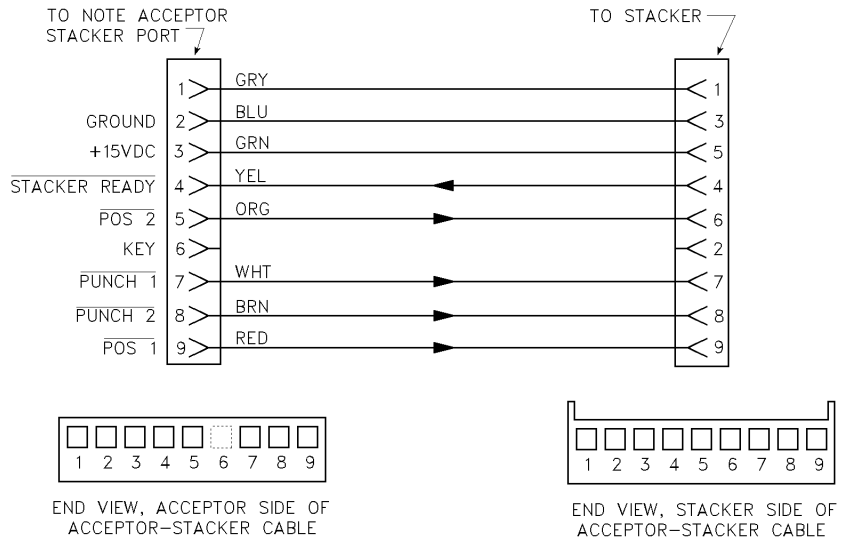

Figure 4-5
4.7 STACKER-ACCEPTOR I/O SIGNALS **(I/O BOARD CONNECTOR J4 Refer to Figure 4-5)**